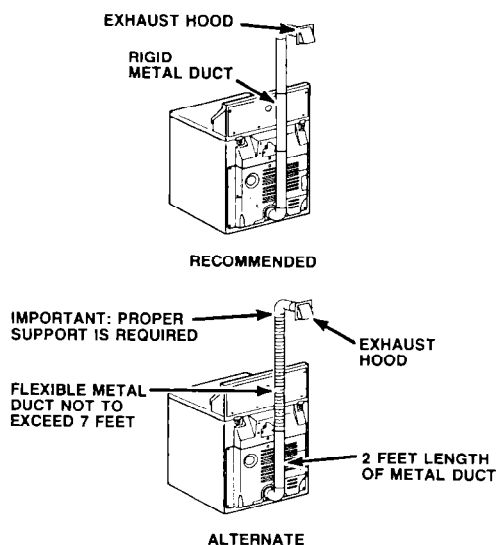

FIGURE 7
12. We do NOT RECOMMEND non-metallic flexible duct. If you use non-metallic flexible duct you must connect a METAL elbow and at least 2 feet (61cm) of METAL duct to the dryer outlet. The length of the non-metallic flexible duct should not exceed 7 feet (2.1m), and it must be adequately supported to prevent sagging or kinking. (See Figure 7).